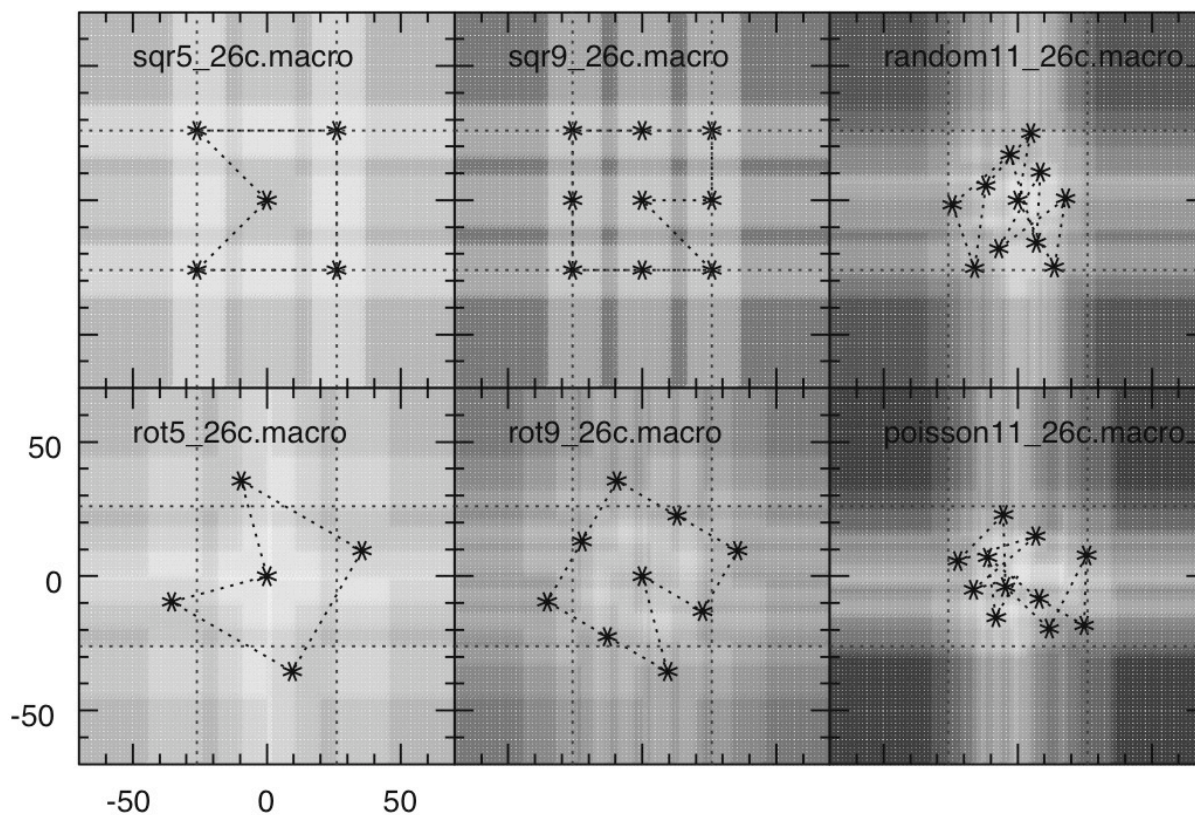

Figure 3.2 Representative dither patterns available.
2. Pattern: see Figure 3.2 for example patterns.